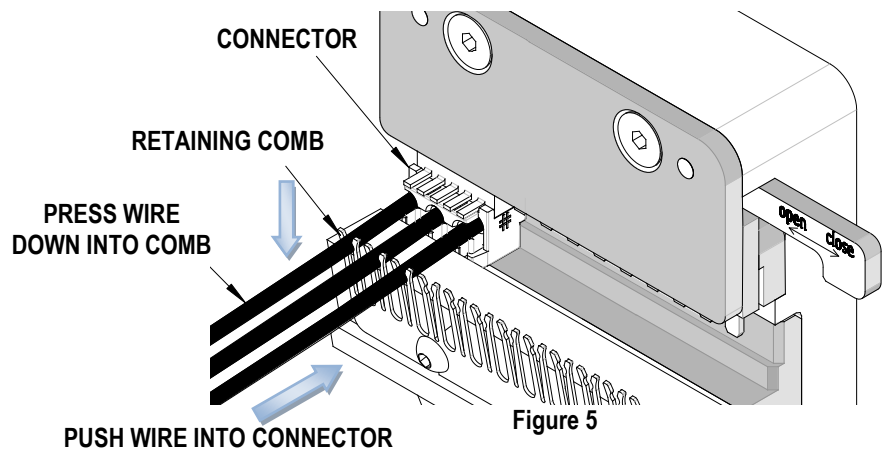

Figure 5
7. To keep the wire in place, press it into the retaining comb on the front of the tool. See Figure 5.